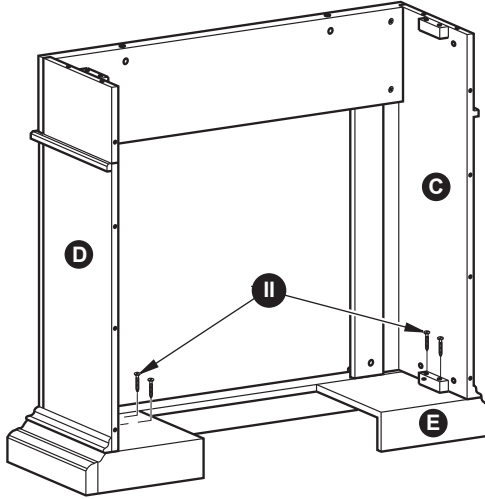

Figure 30
3. Fasten the wood support brackets attached to the Left Side (C) and Right Side (D) Panels with 4) ST4Screw 1 $\frac{9}{16}$ " (II) to the Base (E) as shown in Figure 30.